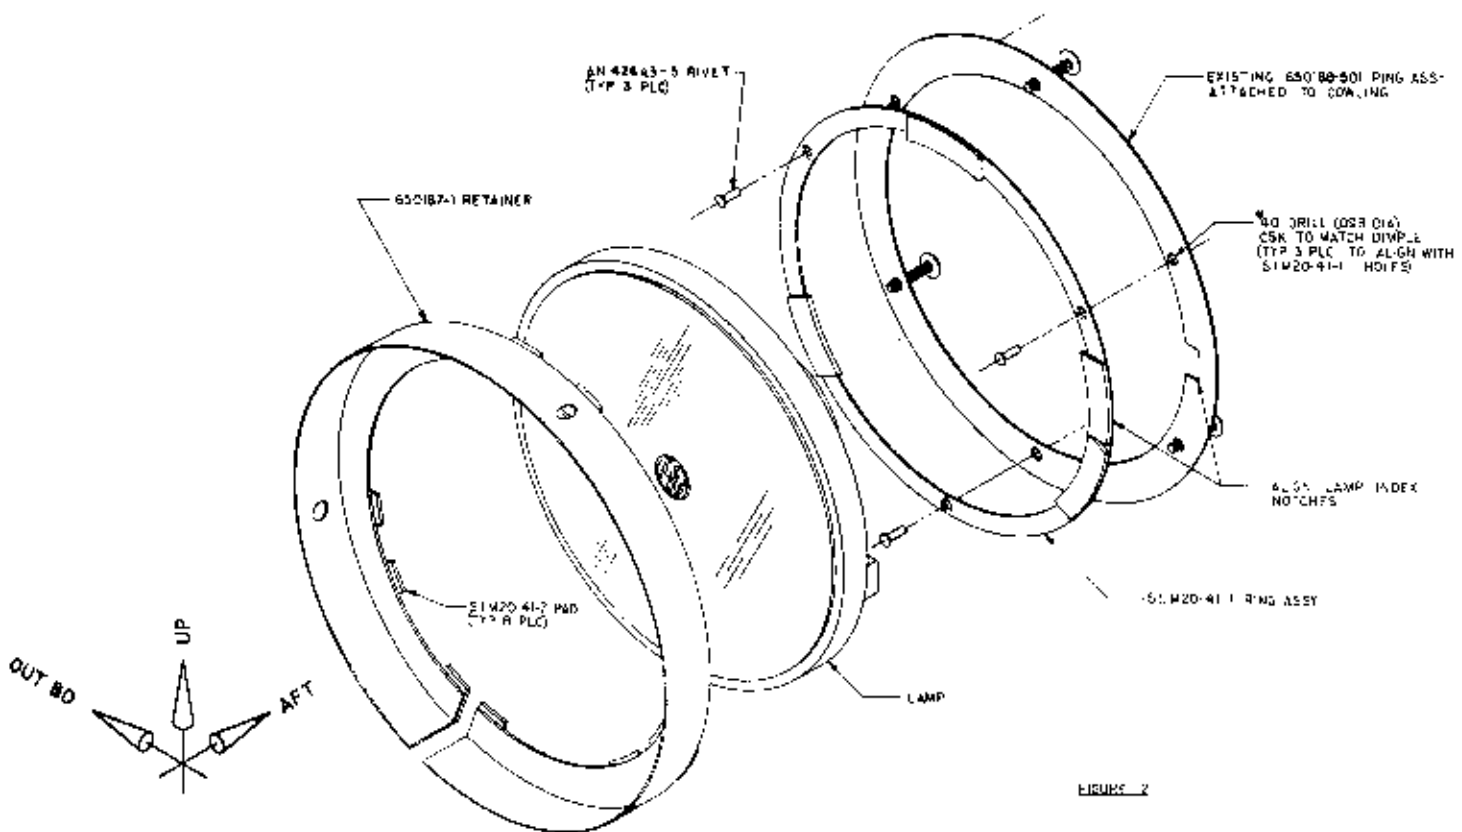

FIGURE 2
3. Match drill and rivet S. I. M20-41-1 ring assembly to cowling per Figure 2.